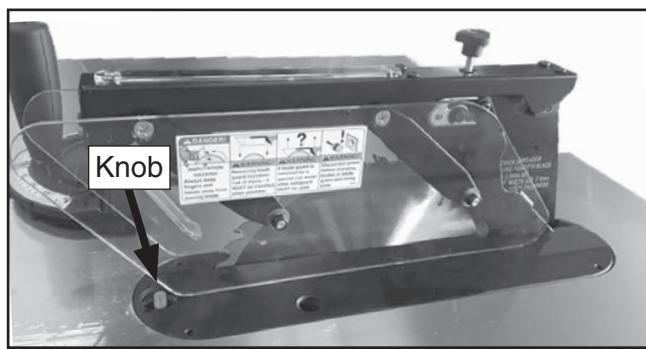

Figure 23. Blade guard and insert installed.
6. Lift blade guard cover just enough to slide table insert into table slot over blade, then secure insert with knob on front of insert (see **Figure 23**).
Blade guard, when properly installed, should look like **Figure 23** and should pivot freely so it touches table surface in the down position. It should also swing up high enough to accommodate workpiece.